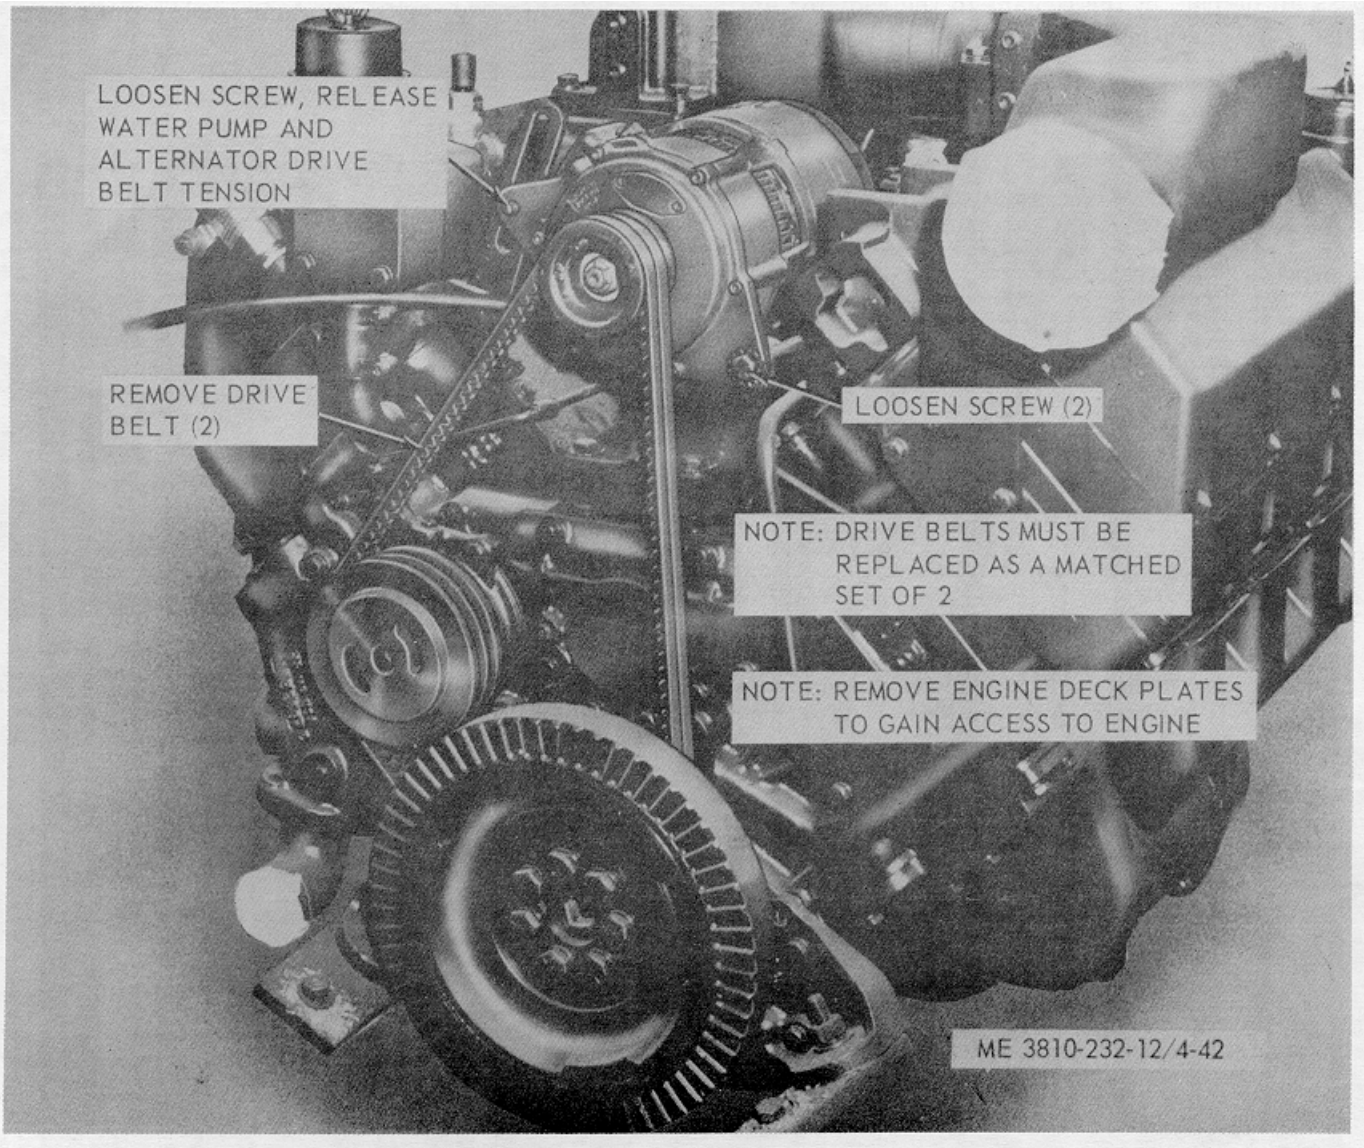

Figure 4-42. Fan belts and water pump and alternator drive belts removal and installation (model 2385)
(1) Remove deck plate.
(2) Refer to figure 4-42 and remove belts.
(1) Refer to figure 4-42 and install belts and adjust belt tension as instructed in figure 3-12.
(2) Install deck plate.